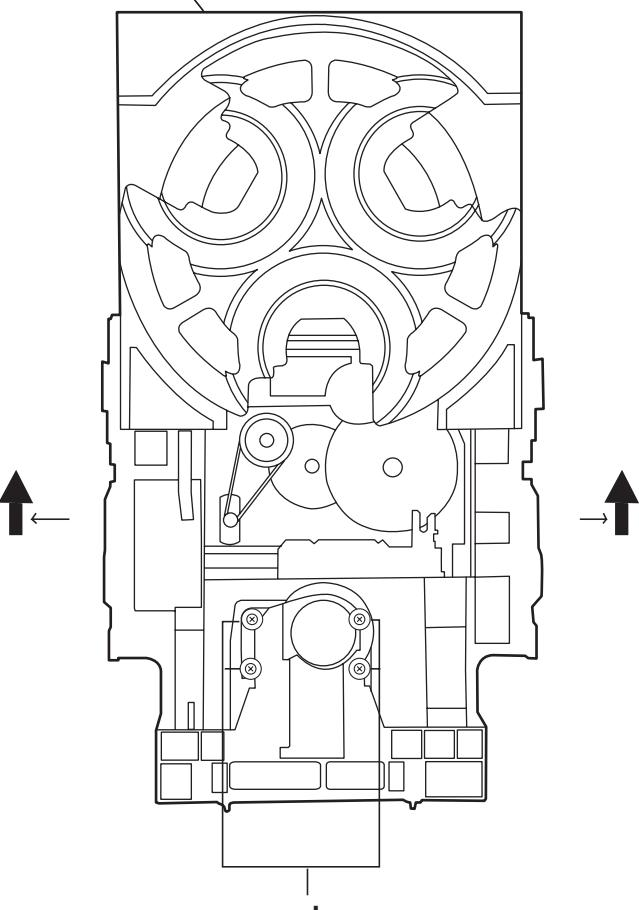

Fig.14
3.2.2 Removing the CD changer mechanism assembly (See Fig.14 to 15)